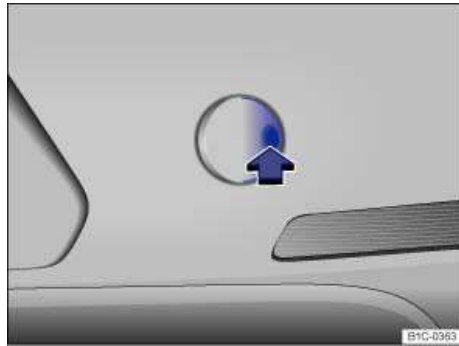

Fig. 185 In the right rear bumper: Removing the cover.
- Push on the cover at the right side marking ⇒ fig. 185 (arrow) so that it pops out.